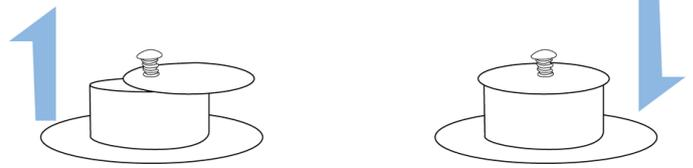

Fig 3.
- On all drying ovens covered in this manual the exhaust is on the left and the inlet is on the right as you look at the oven. Due to the location and number of fans in the different models the location may differ slightly, but they are still in this configuration. (**Fig 3**).